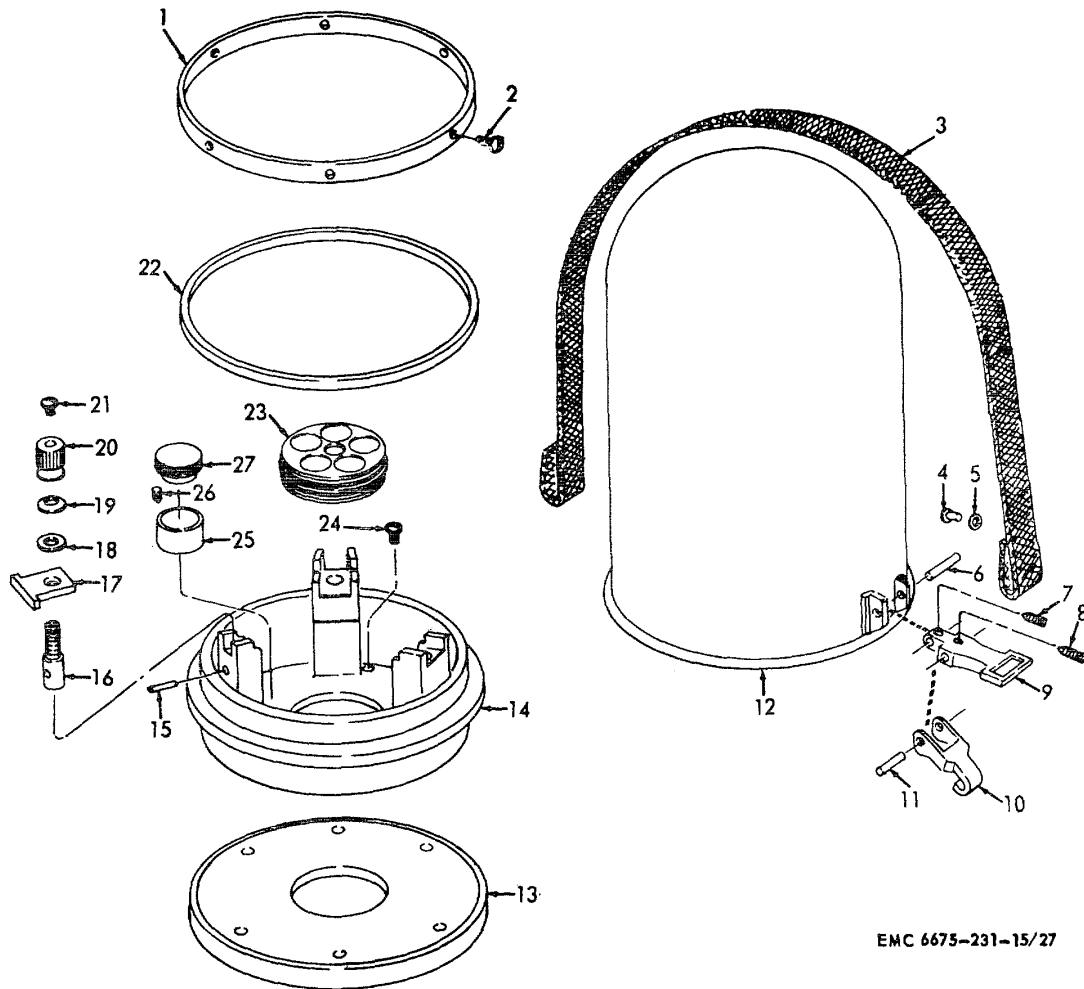

Figure 29. Carrying case, disassembly and reassembly.
- (1) *Removal.* Remove the hood (par. 7).
- (2) *Disassembly.* Refer to figure 29 and disassemble the hood.
(4) *Reassembly.* Refer to figure 29 and reassemble the hood.
(2) *Disassembly.* Refer to figure 29 and disassemble the base.
(4) *Reassembly.* Refer to figure 29 and reassemble the base.